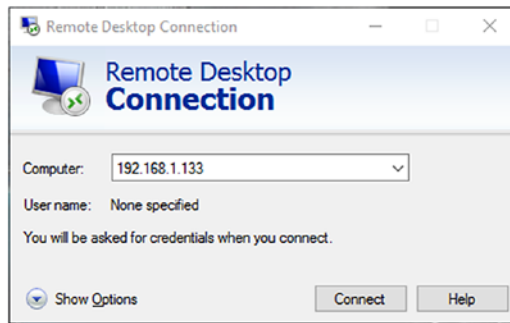

Figure 2-10. *Windows Remote Desktop Connection*
6. On your laptop, open Remote Desktop Connection. This displays the connection dialog box, as shown in Figure 2-10.